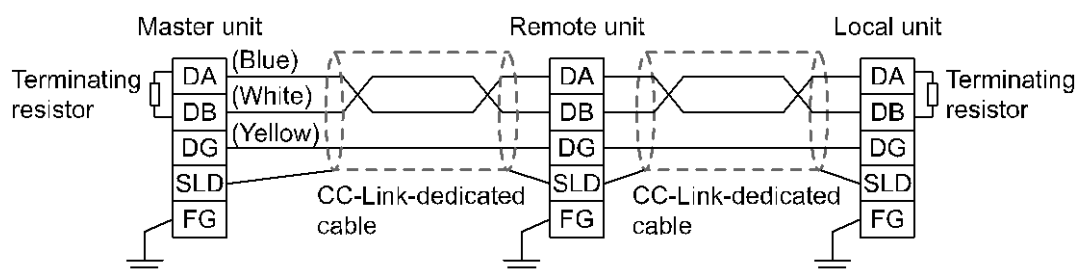

Figure 2
(2) A bus termination is required at both ends of CC-Link bus segment as shown in the Figure 2.